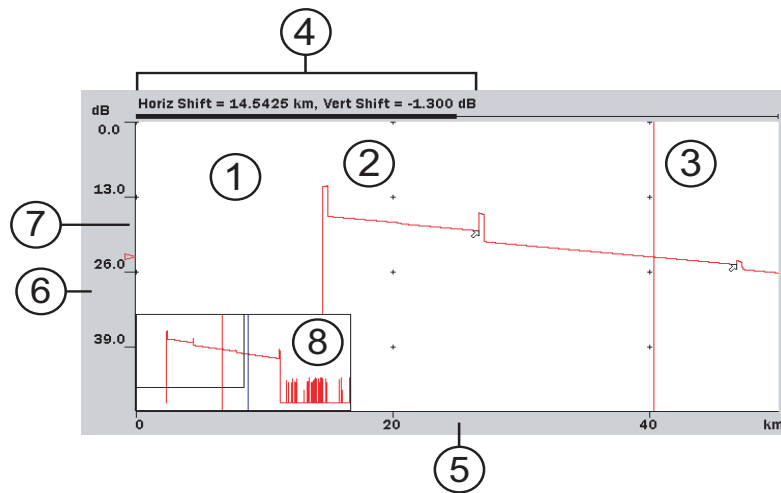

Figure 5-13: Trace Graph
The Trace Waveform (or Trace) is the downward sloping line going from left to right that connects the data points collected during a test. See item 1 in Figure 5-13 on page 5-25.
The cursors (see items 2 and 3 in Figure 5-13 on page 5-25) are the two vertical lines that extend from the top to the bottom of the trace graph. The cursors allow you to extract power and distance information from the trace graph. The active cursor is displayed in red and the inactive cursor is displayed in blue.
These values (see item 4 in Figure 5-13 on page 5-25) are only displayed when some type of shift is in use.
The vertical axis scale (see item 6 in Figure 5-13 on page 5-25) is located on the left side of the trace graph and is expressed in dBs, while the horizontal axis scale (see item 5 in Figure 5-13) is located at the bottom of the trace graph and is expressed in the distance unit as set on the Preferences screen. See “Distance Display Units” on page 5-4 for details.
The dB level indicator (see item 7 in Figure 5-13 on page 5-25) denotes the intersection of the active cursor and the trace level.